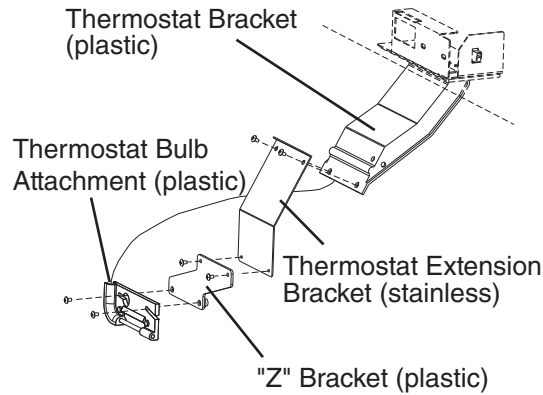

Fig. 9
- i. Remove the 2 screws from the lower part of the thermostat bracket (plastic) and use them to attach the thermostat extension bracket (stainless) to the thermostat bracket (plastic). See Fig. 9.